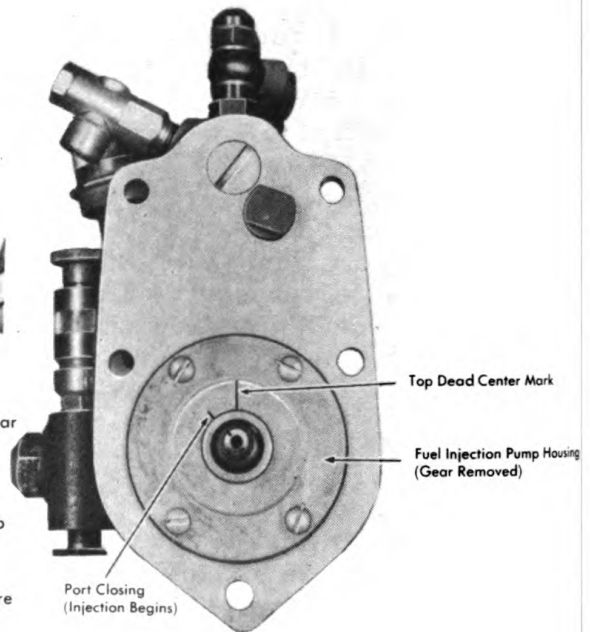

Figure 37. Pump Housing Timing Marks
4. There are two marks on the pump housing immediately in the back of the gear hub. The one is vertical and indicates the top dead center of the pump. The other is to the left of the vertical mark about $1/8$ of a turn and indicates port closing or the beginning of the injection. See Figure 37. This latter mark must center in the gear hub timing hole. If necessary turn the gear hub until this timing mark is in the center of the hole. The injection pump is now in rough time with the engine. Tighten the capscrews.